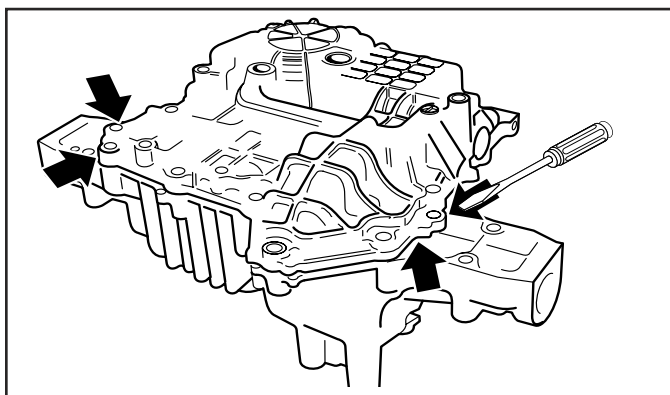

Fig. 6, Pry Points
If separation does not occur easily, a screwdriver can be inserted at any of the (4) pry points (indicated by the black arrows) (Fig. 6)